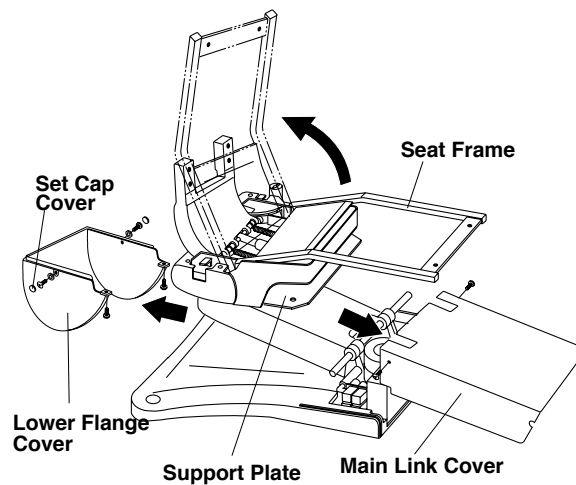

Fig.4-4 Chair Preparations for Installations
Raise the backrest support by the foot switch to the upright position. **(Fig.4-4)**
- (8) Remove 2x M5 screw from either side of the main link cover and remove the main link cover. **(Fig.4-4)**
(9) Remove the set cap covers from either side of the lower flange cover.
Remove 4 x M5 screws and remove the lower flange cover. **(Fig.4-4)**
10) Lift up the seat frame to the back support side. **(Fig.4-4)**